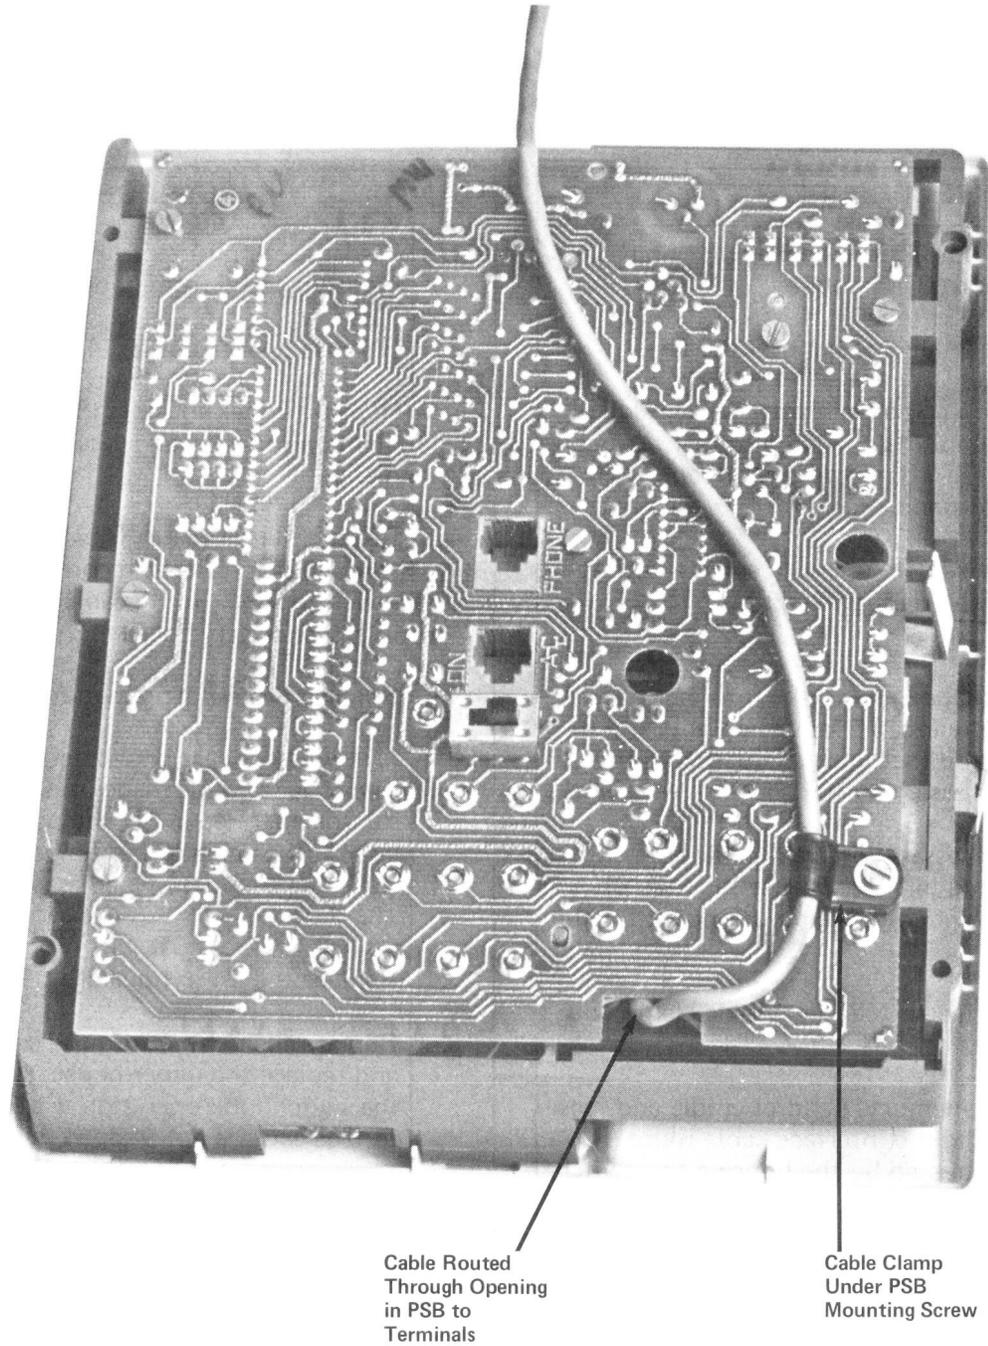

Figure 16, TOUCH-A-MATIC Telephone Interface Cable Routing
- b) Route interface cable to TOUCH-A-MATIC® telephones per Figure 16 and Table E.
4.	Route interface cable (spade lug end in first) through rear mounting cord knockout in lower housing. Route cable through opening in power supply board as shown in Figure 16.
6.	Make the connections as defined in Table C. The splice is to be made using the snap-on insulator provided under the power supply board. The cable is then to be secured using the cable clamp provided as shown in Figure 16.